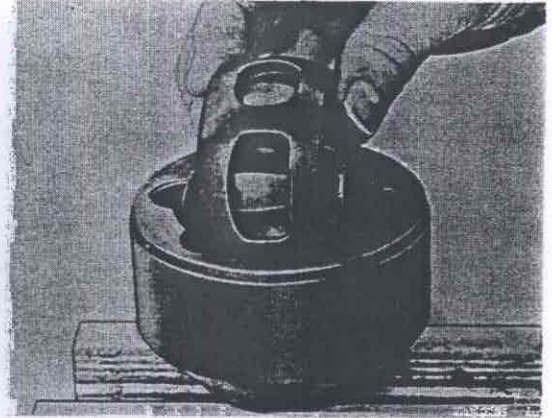

Fig. 46-89. Removing the ball cage
3. Rotate the ball cage and flange according to Fig. 46-89 and pluck it out of the shaft pin.